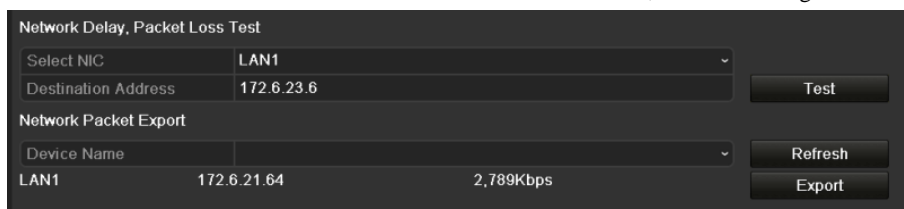

Figure 11. 37 Network Detection Interface
2. Click the **Network Detection** tab to enter the Network Detection menu, as shown in Figure 11. 37.